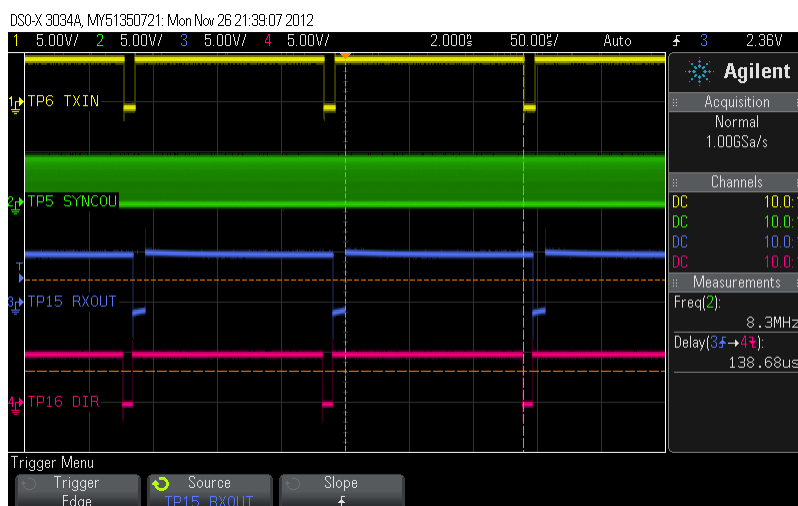

Figure 10. System Evaluation with U1 as Transmitter and U2 as Receiver at 115.2kbps
14. Example waveforms for U1 acting as transmitter and U2 acting as receiver at 115.2kbps data transmission rate are shown in Figure 10.